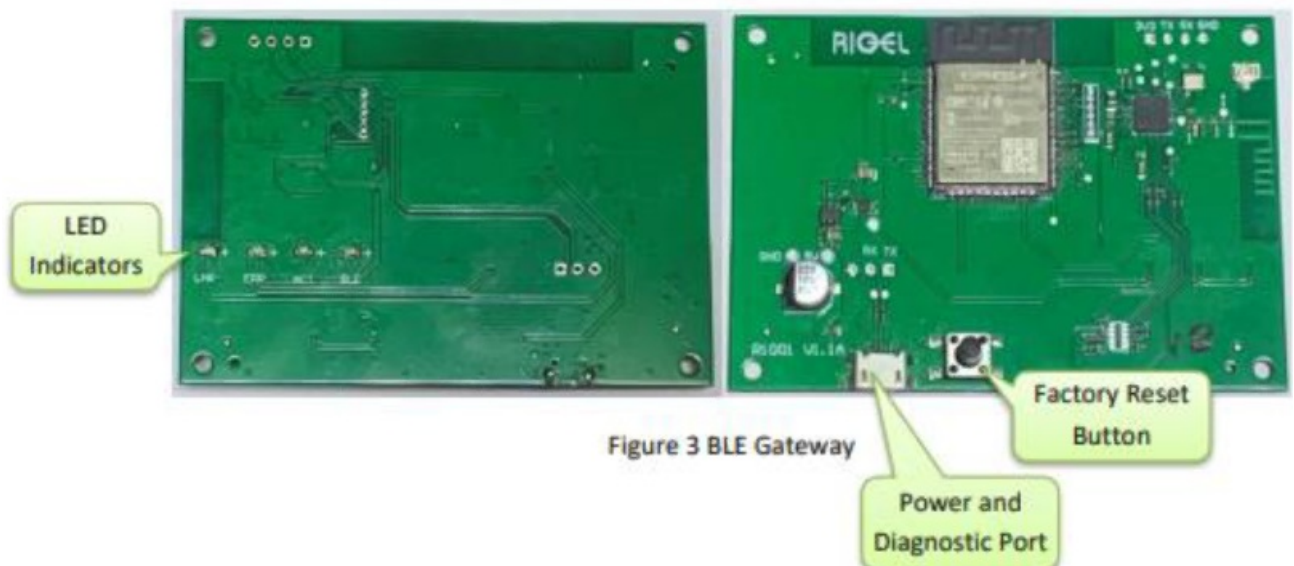

Figure 3 BLE Gateway
3. Figure 3 shows the BLE Gateway PCBA interfaces: